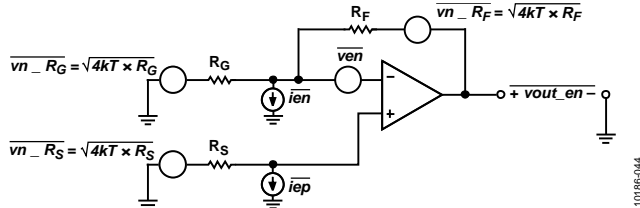

Figure 41. Noise Sources in Typical Gain Configurations
Figure 41 illustrates the primary noise contributors for the typical gain configurations. The total rms output noise is the root mean square of all the contributions.
*RF* and *RG* are the feedback network resistances, as shown in Figure 41.
*RS* is the source resistance, as shown in Figure 41.